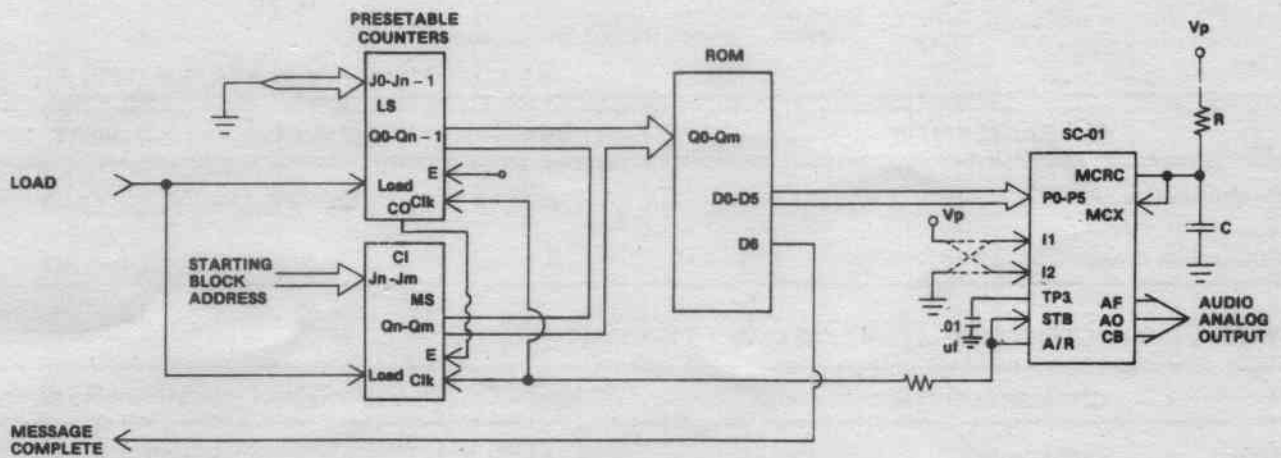

Figure 9. Multiple Message, Fixed Block Size
**Multiple Message, Fixed Block Size:** See Figure 9. Message address block is loaded into the counter. The message is then clocked out of the ROM by the A/R signal.